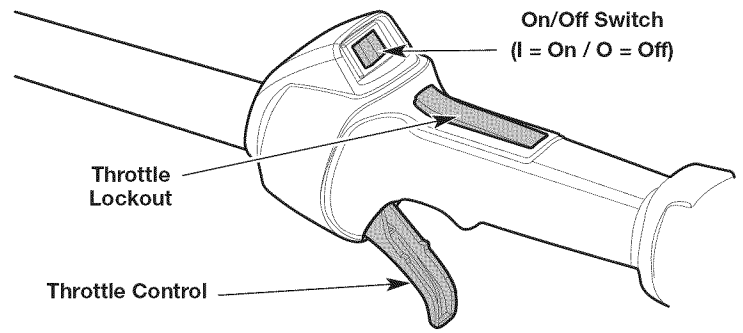

Fig. 7
**NOTE:** **DO NOT** squeeze the throttle control until step 8 (Fig. 7).
8. Press and hold the throttle lockout (Fig. 7). Squeeze the throttle control as needed for operation (Fig. 7).
2. Press and hold the On/Off switch in the **Off (O)** position until the engine comes to a complete stop (Fig. 7).